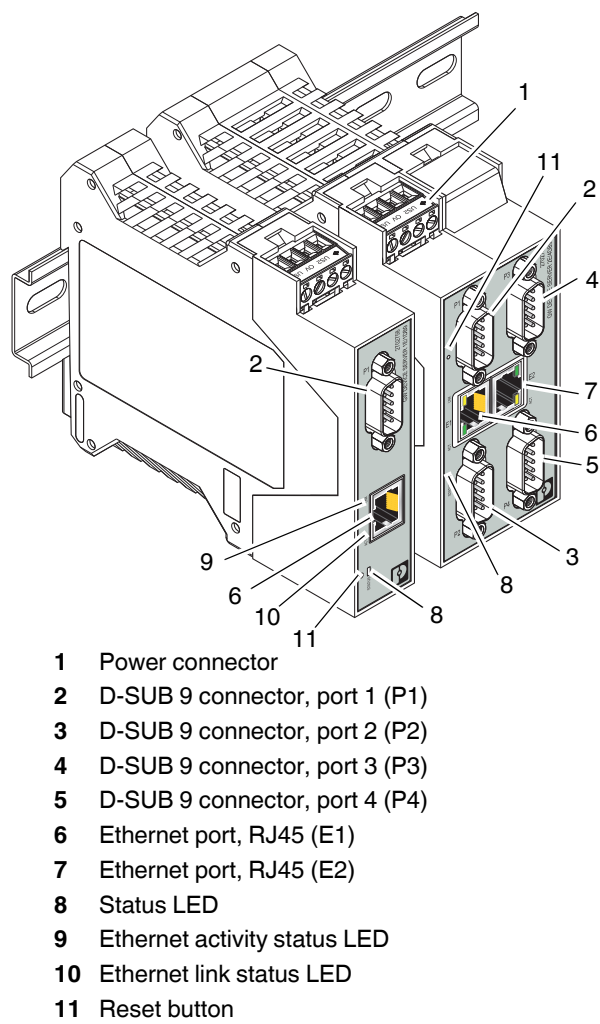

Figure 2 Structure
Figure 2 shows the GW...1E/1DB9 and GW...2E/4DB9 variants. Other variants are similar.
1. With the device powered off, press and hold the reset button. Apply power and hold the reset button for at least five seconds. Reinitializing the module and firmware reset may take some time. Do not disconnect from power (see Figure 2 for the location of the reset button).